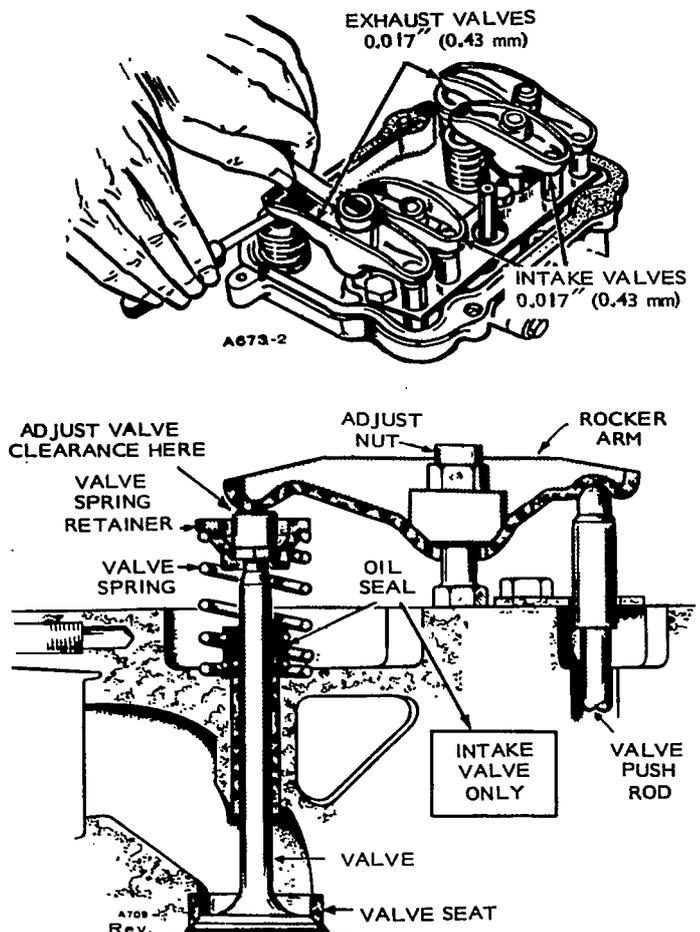

FIGURE 51. SETTING VALVE CLEARANCES
2. Using a feeler gauge, check clearance between rocker arm and valve (see Figure 51). Increase or reduce clearance until proper gap is established; adjust with lock nut which secures rocker arm to cylinder head.
2. Using a feeler gauge, check clearance between rocker arm and valve (see Figure 51). Increase or reduce clearance until proper gap is established; adjust with lock nut which secures rocker arm to cylinder head, Figure 51.
3. To adjust valve clearance for number 2 cylinder, turn flywheel in a clockwise direction 180 degrees (1/2 revolution) from position used in Step 1. The flywheel position should be between 10 degrees and 45 degrees past the bottom center (BC).
9. Set valve clearance. See Figure 51.